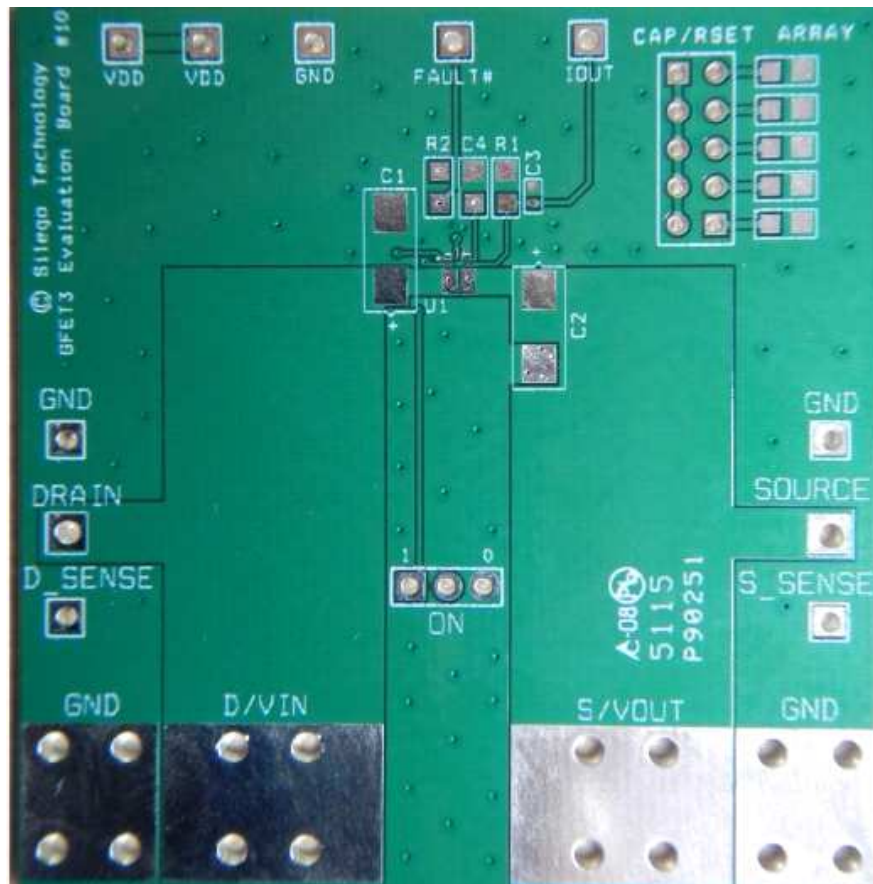

Figure 13. SLG59M1707V Evaluation Board
2. Since the VIN and VOUT pins dissipate most of the heat generated during high-load current operation, it is highly recommended to make power traces as short, direct, and wide as possible. A good practice is to make power traces with absolute minimum widths of 15 mils (0.381 mm) per Ampere. A representative layout, shown in Figure 13, illustrates proper techniques for heat to transfer as efficiently as possible out of the device;
A GreenFET Evaluation Board for SLG59M1707V is designed according to the statements above and is illustrated on Figure 13. Please note that evaluation board has D_Sense and S_Sense pads. They cannot carry high currents and dedicated only for RDS_{ON} evaluation.